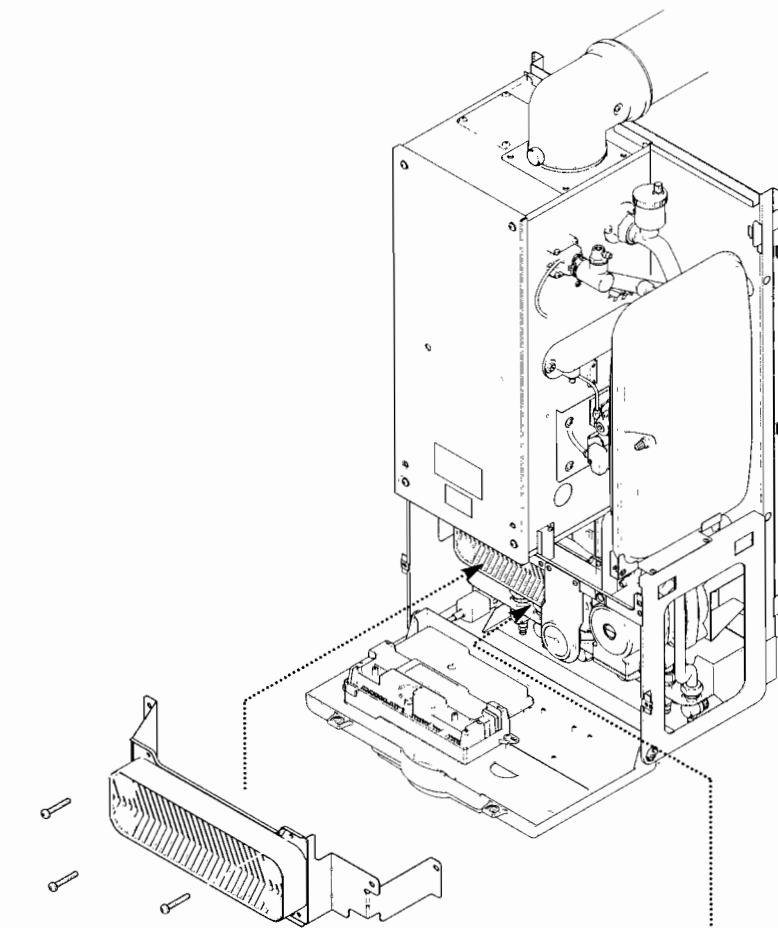

Fig. 60
2. Remove the four screws securing the plate heat exchanger to the manifolds (Fig. 60).